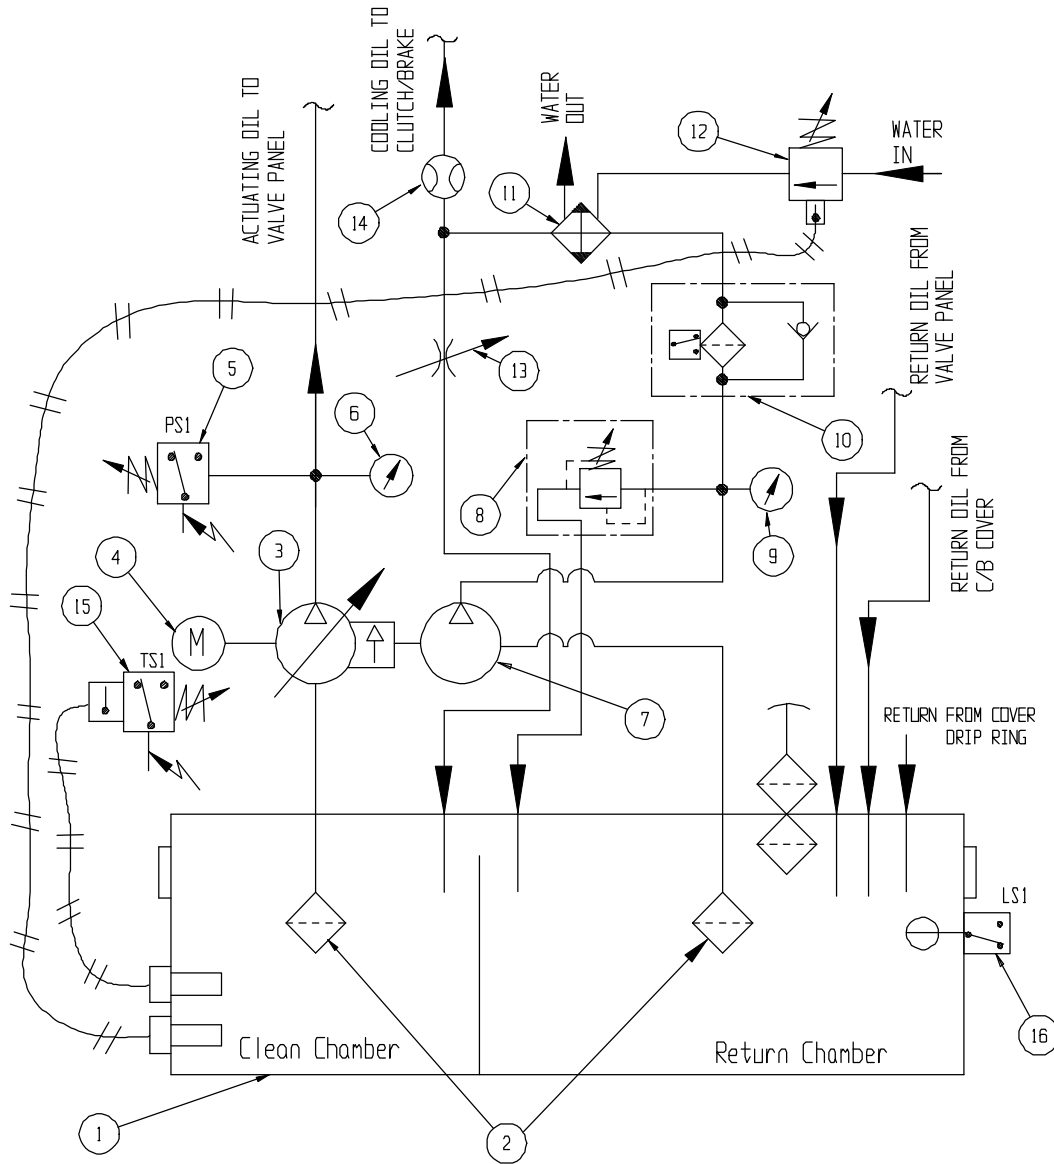
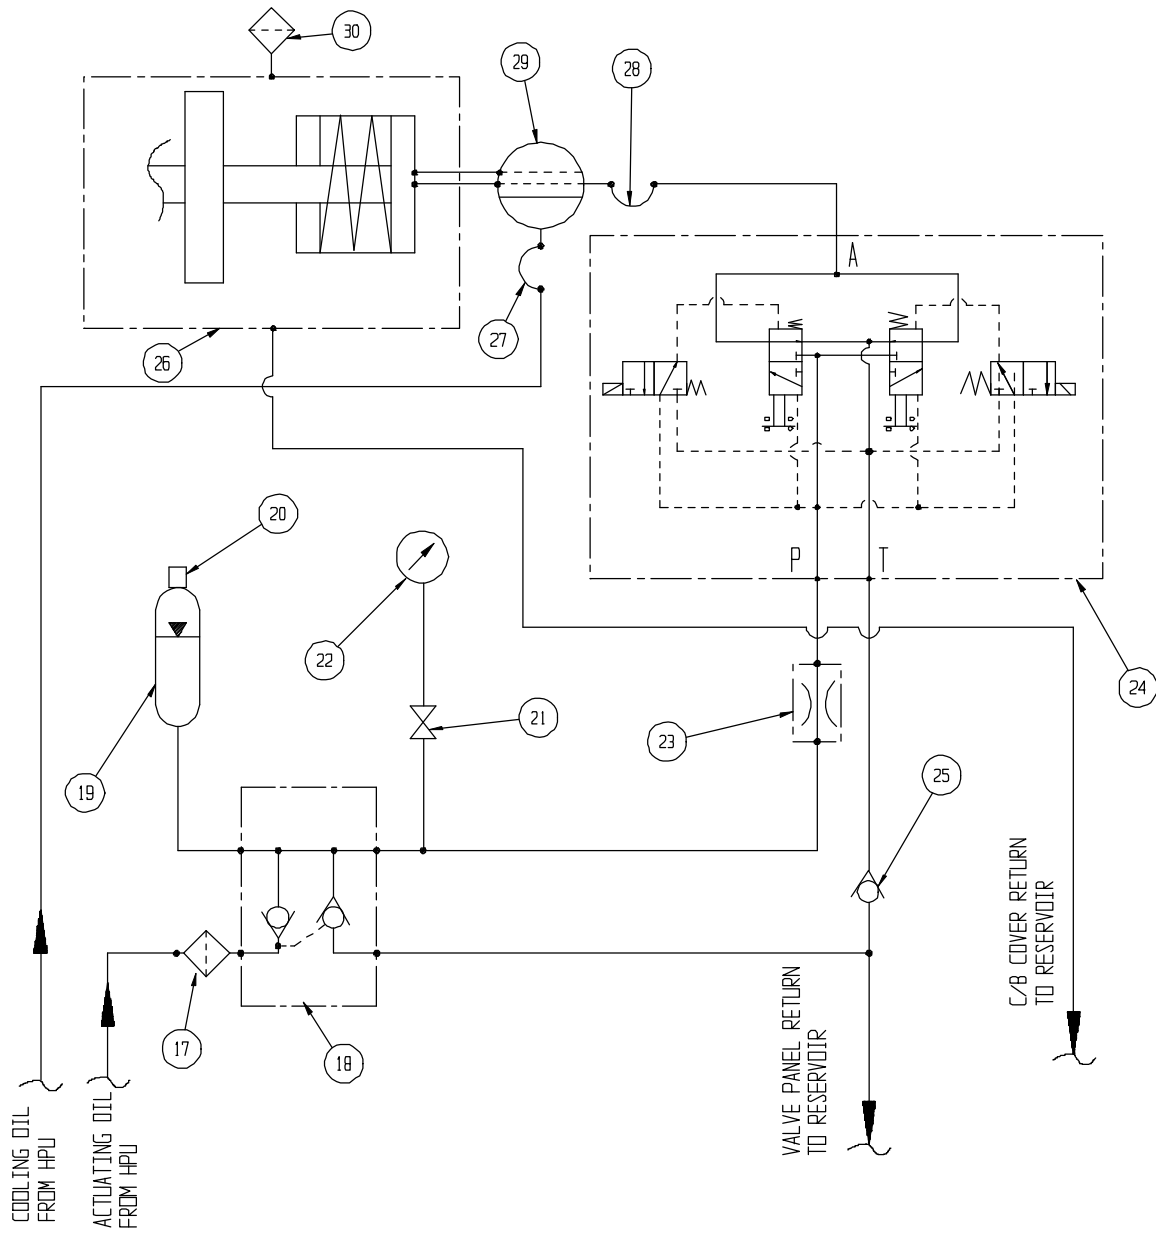

Figure B1
Figure B2
The *Ortlinghaus* Series 0123, 0023, 0224, and 0225 clutch/brakes, clutches, and brakes use hydraulic fluid for two purposes, clutch actuation/brake release and cooling/lubrication. The hydraulic system must supply hydraulic fluid at the proper pressures and flows for each of these purposes. In normal practice the hydraulic system is made up of two subsystems, a hydraulic power unit as shown in Figure B1, and a valve panel as shown in Figure B2. The hydraulic power unit is mounted in a convenient location and the valve panel is to be located a short distance (3 feet or one meter) from the rotary union. The operating pressures and maximum pressures for the actuation oil are listed in Table B1 while general recommendations for actuating oil flow are listed in Table B2. The actual actuating oil flow is dependent on the size of the clutch/brake, clutch, or brake used and the specific operating conditions of the application. The cooling oil flow required is also dependent on the specific application, and there are no general recommendations for it. Please refer to the quotation, kit instructions, or other documentation from Orttech for the proper cooling oil flow. Cooling oil pressure required is a function of flow, line restrictions, and in-line components, as well as the type of cooling used at the clutch/brake, clutch, or brake (inner cooling or splash cooling).
- **Hydraulic Power Unit;** Figure B1
The hydraulic power unit provides the actuating and cooling streams of the fluid. Often two pumps are used, one for the actuating fluid and one for the cooling fluid as well as a fluid conditioning loop. Figure B1 shows a divided reservoir as is used on units provided by Orttech. This is just a sample schematic, as there are other methods of providing the same functions. The hydraulic power unit must include the following items as a minimum requirement.
- **Reservoir** – This is to be properly sized for the total flow of the pump(s) used, and be divided and/or baffled to allow efficient operation of the pump(s), heat exchanger, filter, and other components. The circuit shown in Figure B1 uses a reservoir divided into two separate chambers, a return chamber and a clean chamber. All used fluid returns to the return chamber, conditioned fluid flows into the clean chamber, and the clean chamber overflows into the return chamber. This is standard practice for hydraulic power units supplied by Orttech. Other arrangements (such as single chamber designs) may be used, but it is the responsibility of the designer that they function properly,
- **Valve Panel;** Figure B2
The valve panel controls the actuating fluid. The operating valve (a press safety valve is shown in Figure B2) allows the actuating fluid to apply the clutch and/or release the brake.
The sensor for the device that controls the flow of water through the oil to water heat exchanger or the fan motor of the oil to air heat exchanger must be located in the clean chamber of a two chamber reservoir as shown in Figure B1, or if an alternate design of reservoir is used (such as a single chamber reservoir), in a location where the average bulk fluid temperature is sensed. The heat exchanger must be properly sized to reject the required amount of heat based on the temperature of the fluid on the inlet side of the heat exchanger and the temperature of the cooling water in the case of an oil to water unit or the ambient air temperature in the case of an oil to air unit.